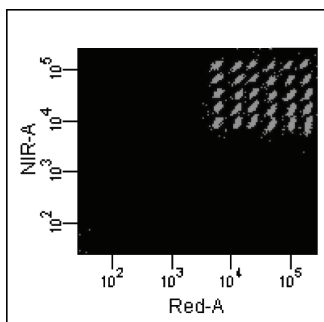

Figure 1
- Multiple bead populations that can be used individually or multiplexed as needed (See *Figure 1* below).